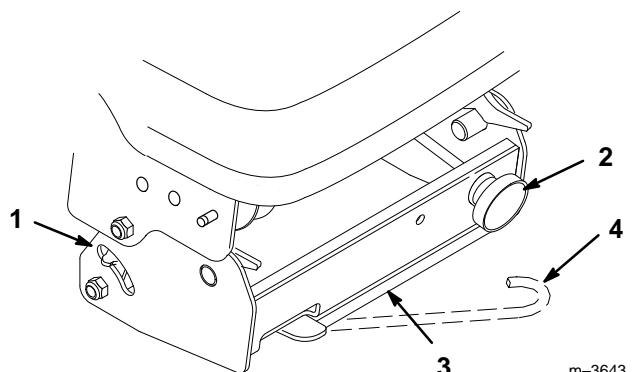
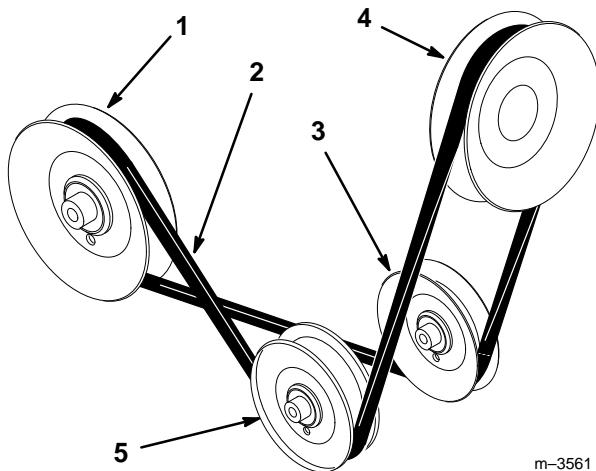

Figure 18
Figure 19
15. Release the belt tension release arm of the pulley box housing and swing it out toward you (Fig. 18).
- If the tension indicators are not in the same position on both the left and right sides, release the belt tension, turn the adjustment knob and repeat steps A and B until the indicators move to the same position (Fig. 18).
- Once the indicators are in the same position on both sides, swing the tension release arm into the pulley box by moving it into the position shown in Figure 18.
4. Release the belt tension release arm (Fig. 18), then remove the PTO belt from its position around the PTO pulley (Fig. 19). Additional belt slack can be obtained (if needed) by turning the belt tension adjustment knob.